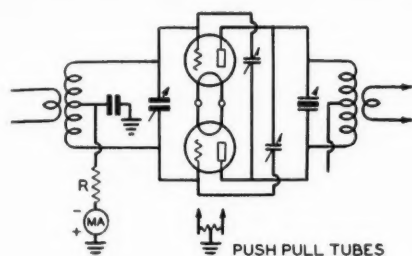

Figure 5.
Figure 5. Current distribution on the two 3-wire doublets when used on the second harmonic (A). Dimensions and location of matching stub for 28 Mc. or second harmonic operation (B).